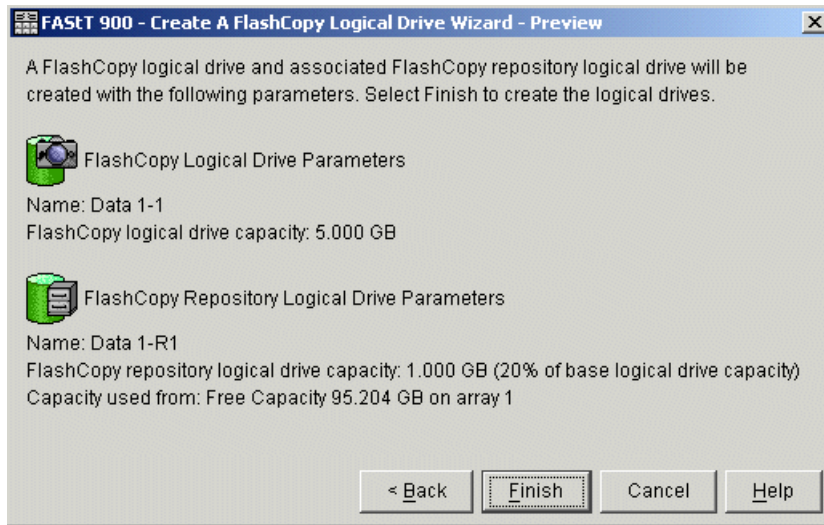

Figure 7-14 Create FlashCopy Logical Drive Wizard - Preview
- iii. The Create FlashCopy Wizard Preview screen appears (Figure 7-14 on page 210). It displays components associated with the FlashCopy. Review the information and click **Finish**.